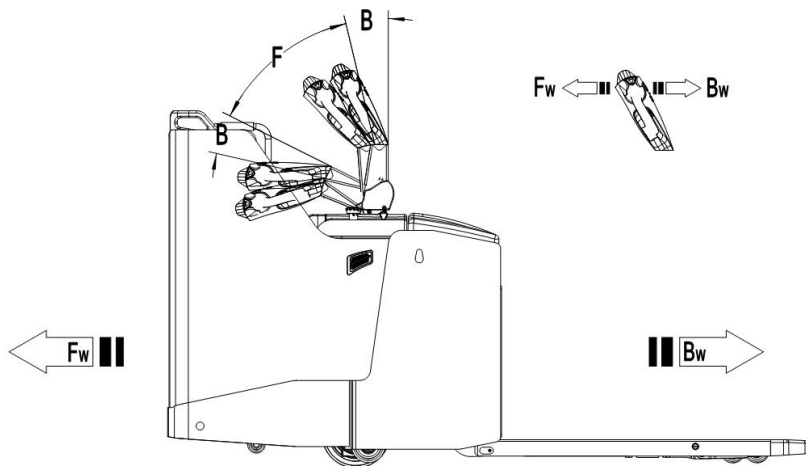

Fig. 14: Operating direction
After starting the truck by turning on the key switch (18), move the tiller to the operating position (fig.14).
Turn the accelerator button to the desired direction forward 'Fw.' or backwards Bw.'(fig. 14).